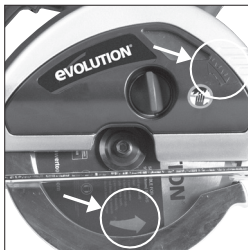

Fig. 5
- Ensure that the direction of rotation arrows printed on the blade match the direction of rotation arrow found on the chip collector. **(Fig. 5)**